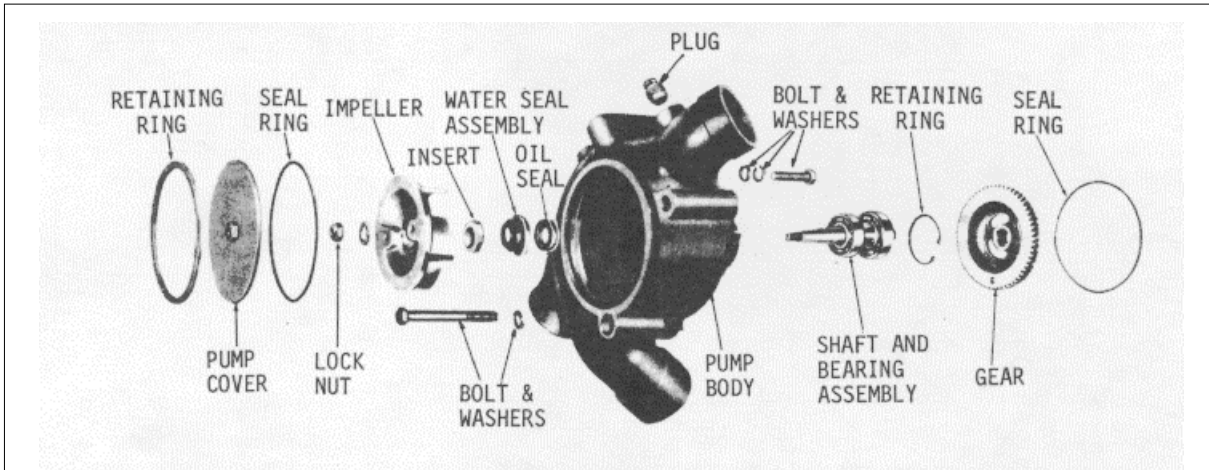

Fig. 8 High Capacity Water Pump Details and Relative Location of Parts
A bronze impeller is secured to one end of a stainless steel shaft by a locknut. The water pump gear is pressed on the opposite end of the shaft. Two ball bearings are used to carry the shaft. The larger bearing is used at the drive gear end of the shaft to accommodate the thrust load (Fig. 8).
- (6) Make sure the mating surfaces of the water seal and the ceramic insert (Fig. 8) are free of dirt, metal particles and oil film.
- (7) Apply a small quantity of International Compound No. 2, or equivalent, to the threads of the pump shaft.
- (8) Place the impeller and washer on the shaft and start a new locknut on the shaft. Hold the pump gear securely while drawing the impeller down on the tapered shaft with the locknut. Tighten the nut to 45-50 ft-lbs (61-68 Nm) torque.
- (9) Loosen the clamps and remove the hose from the water outlet opening of the pump.
- (10) Insert a feeler gauge into the water outlet opening of the pump. The minimum clearance between the impeller and the pump body must be .015".
- (11) Use a new seal ring when installing the pump cover. Install the cover retaining ring by hand. Tap the cover lightly to be sure the ring is completely seated in the groove.
- (12) Install and secure the hose on the water outlet opening with the clamps.